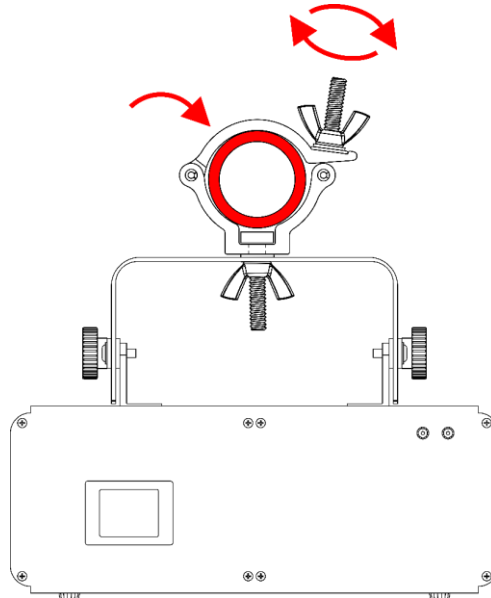

Fig. 06
06) Put the device, with the installed load, around a tube (Ø 49–51 mm) and close the **lock (09)**. See Fig. 06.